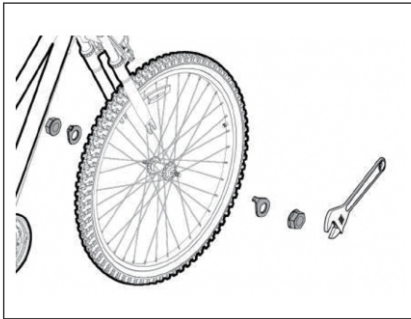

Figure 3
- Install retaining washers with raised lip pointed towards the fork, and insert into the small hole of the fork blade (Figure 3).